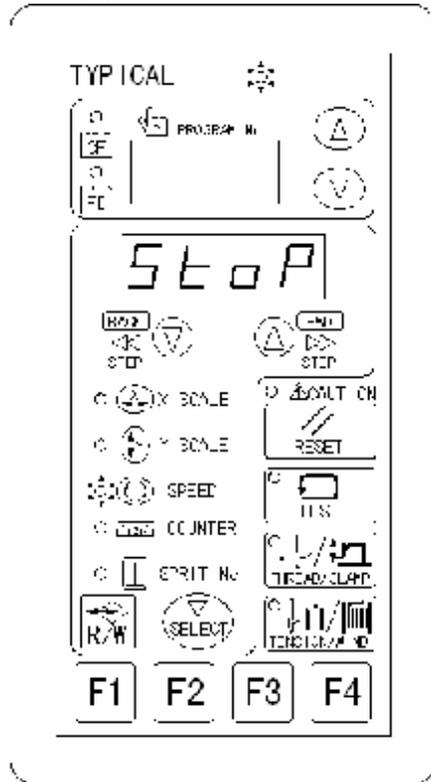

Fig. 5-11
Under the main mode, press emergency stop switch, the operation panel display is as shown in Fig. 5-11, the machine is locked and all operations will not work.
1. In the sewing speed set-up interface, a certain pattern shall be selected to carry out normal sewing, during the sewing process, press on emergency switch installed at left side of the machine head, or step on the emergency shift of step switch, then the machine stops operation, the presser foot frame and the middle presser foot is pressed down. The operation panel display is as shown in Fig. 5-11, now all keys on the operation panel are invalid.